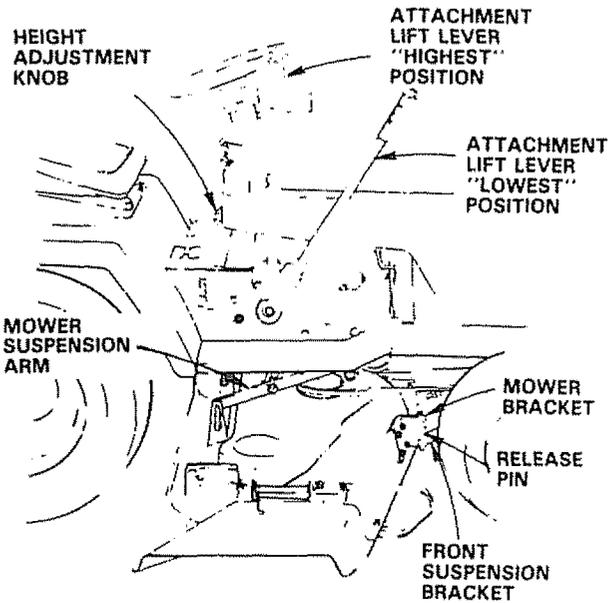

FIGURE 7
- Remove banding from suspension arms (Fig. 7).
- Slide front suspension brackets into mower brackets. Retain with release pins (Fig. 7).
- Turn height adjustment knob (Fig. 7) clockwise (  ) to remove slack from mower suspension.